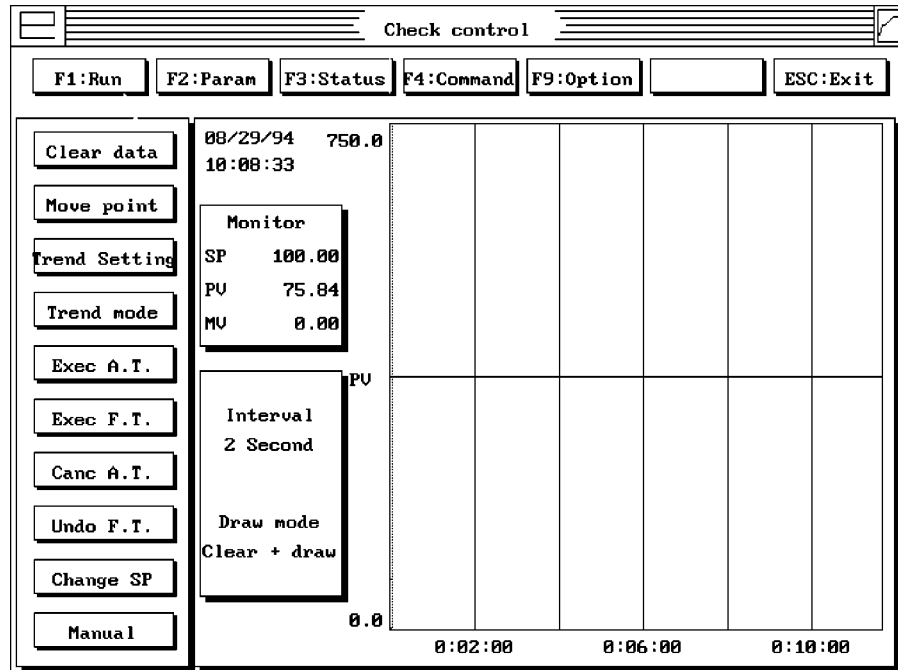

Figure 11
- In the **Check control** menu click on **F4:Command** (Figure 11).